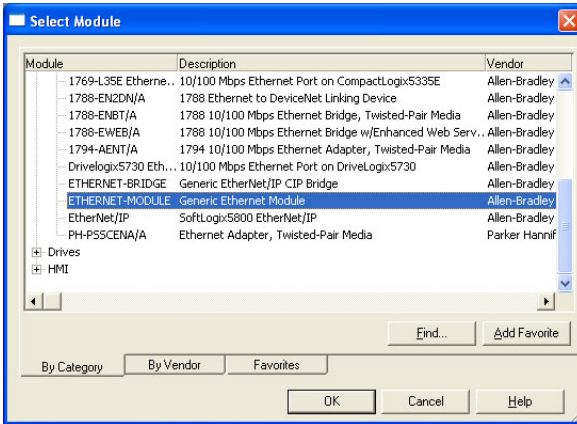

Figure 80: Adding a New Generic Ethernet Module
- 3) Choose "Generic Ethernet Module" in the Select Module dialog box and click "OK". Refer to Figure 80.